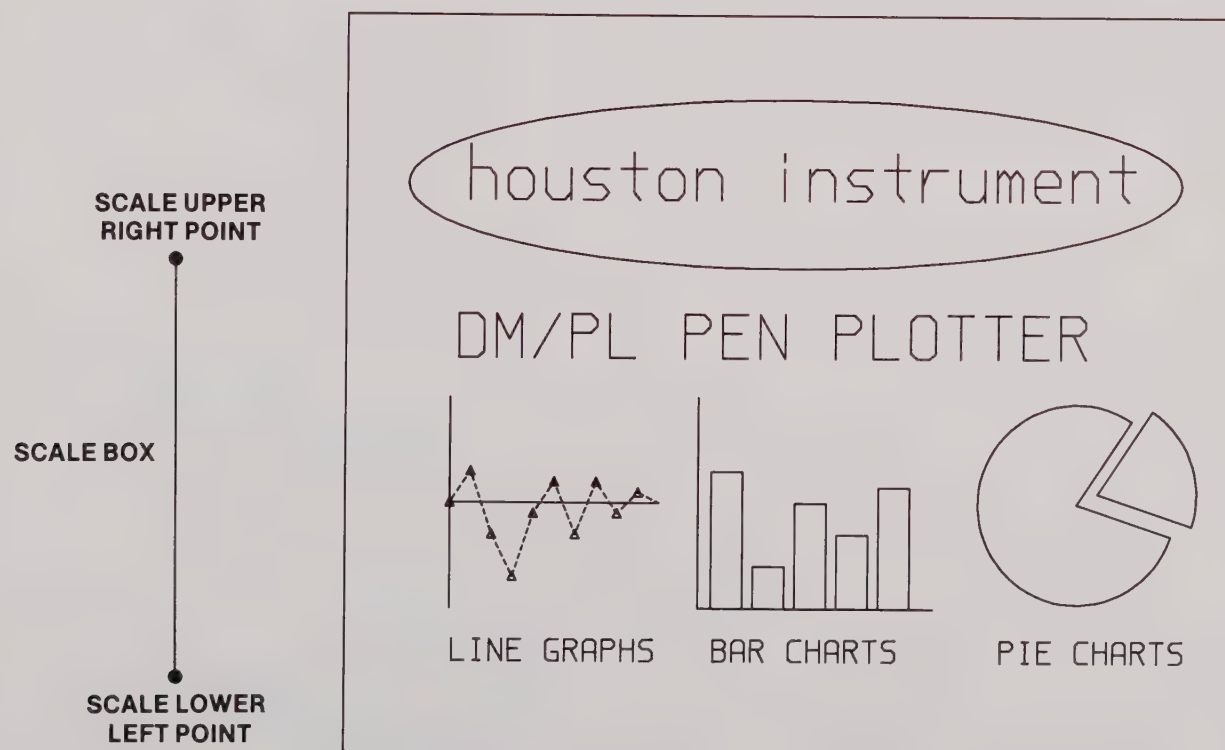

FIGURE 2-9
4. Use the plotter manual controls and move the pen to the approximate location for the lower left point shown in Figure 2-9.
6. Use the ↓ manual control and move the pen to the approximate location for the upper right point shown in Figure 2-9.